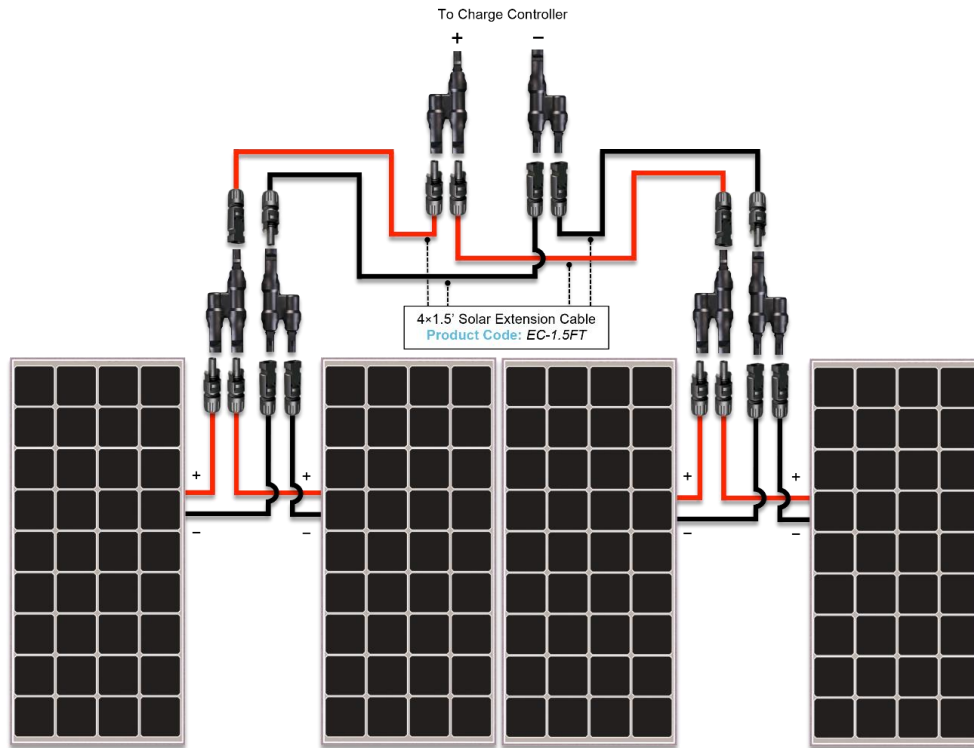

Figure 8.5 Four RNG-100D Panels in parallel
Fig. 8.5 above shows the arrangement for connecting four solar panels in parallel. This arrangement is applicable if the solar panels are to be mounted in a **1x4** configuration as shown above. For this configuration you will need to purchase 4x1.5' MC4 Solar Extension Cables. This connection requires a **three (3)** pairs of MC4 Branch Connectors. When one or multiple panels are mounted at different locations- that is, separated by a distance, the panels must be extended with MC4 Extension Cables (sold separately).